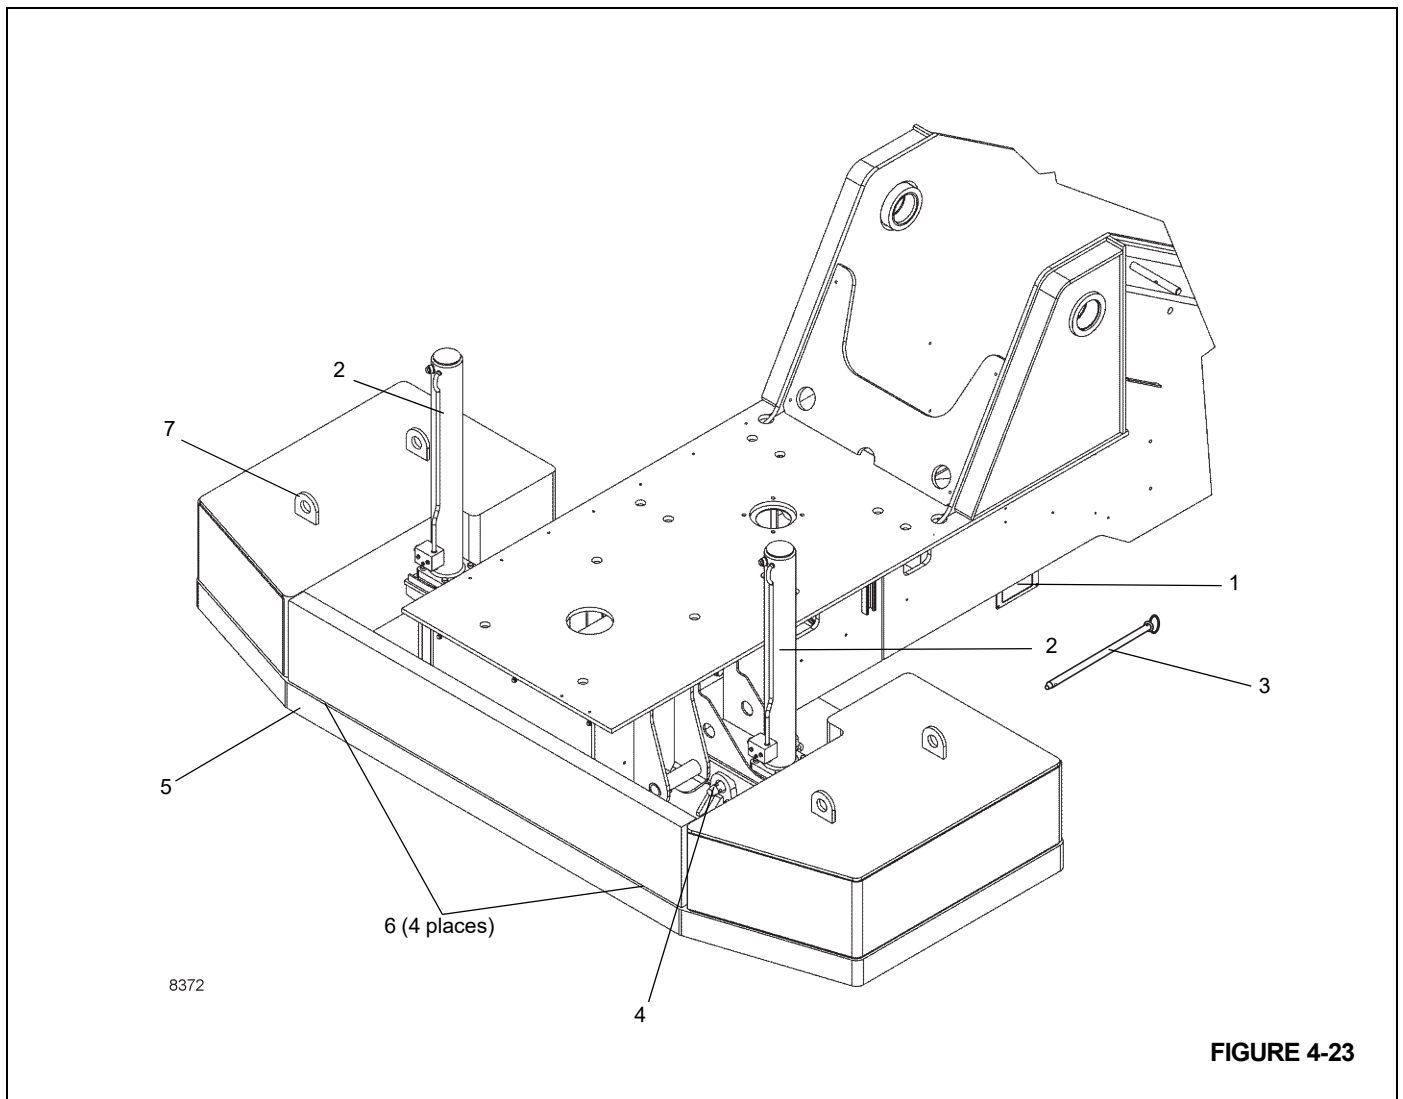

FIGURE 4-23
5. Using the counterweight removal control valve switches (Figure 4-22) and (Figure 4-23) located on either side of the turntable, lower the counterweight cylinders. Pin the cylinders to the counterweight using the attach pins in the cylinders. Insert the retaining pins in the attach pins.